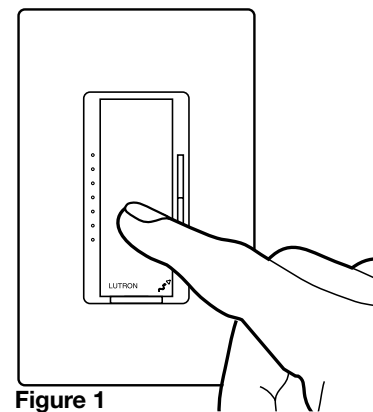

Figure 1
- Press and hold the dimmer/switch tap button (Figure 1) for approximately 6 seconds. Once the LED(s) start to blink slowly, release the tap button.